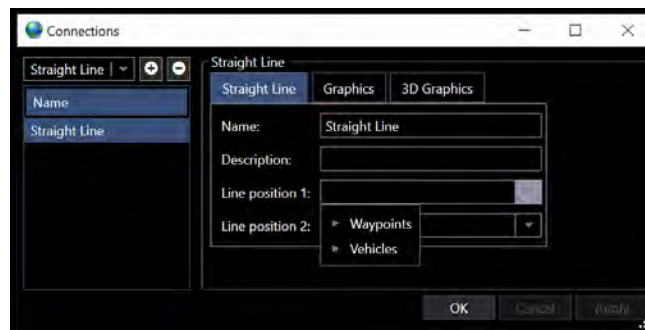

FIGURE 15-7 LINE POSITION OPTIONS
- c. **Line Position 1:** From the Line Position 1 drop-down list, select the start point of the connection from the available options, see Figure 15-7
- d. **Line Position 2:** From the Line Position 2 drop-down list, select the end point of the connection from the available options, see Figure 15-7